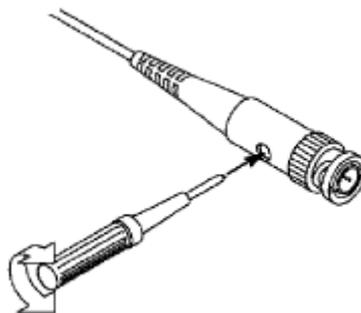

Figure 8. Adjust Probe.
- 2 Check the displayed waveforms and regulate the probe till a correct compensation is achieved (see Figure 7 and Figure 8).